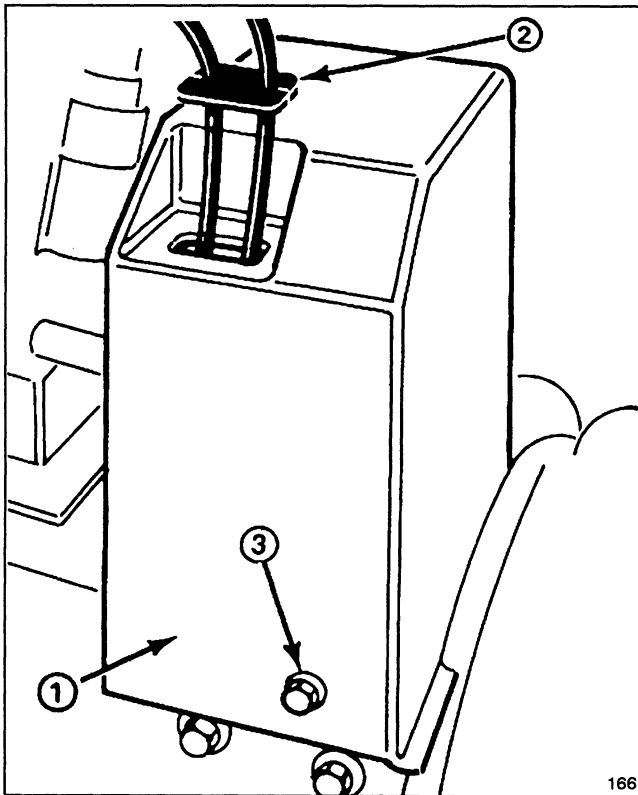

Figure 28
2. Remove (3) flange head capscrews securing belt cover to engine frame and slide belt cover up over cables (Fig. 28).
2. Remove (3) flange head capscrews holding belt cover in place, and slide belt cover up cables (Fig. 28).
4. Remove (2) flange head capscrews securing idler pulley assembly to engine frame. Remove idler pulley assembly.